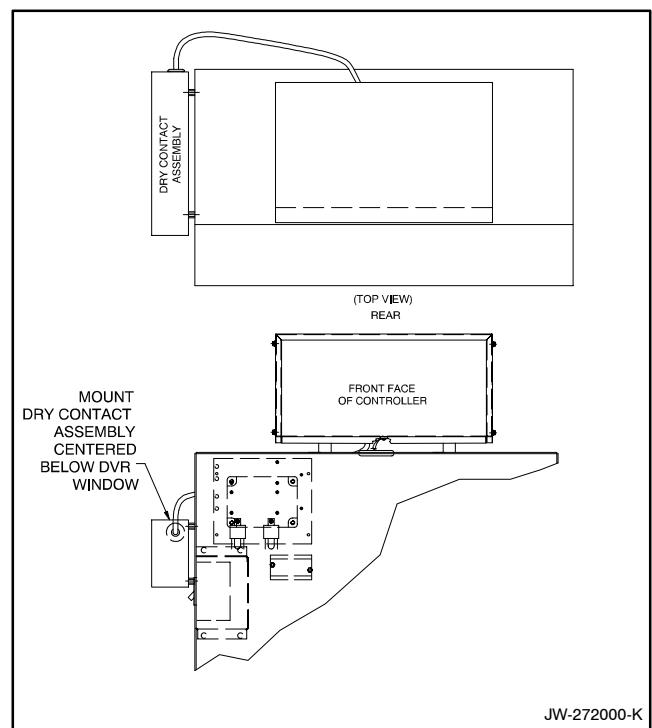

Figure 8 Junction Box Drilling Information (350/400 kW)
- 5.2.1 Drill four 7.1 mm (0.281 in.) diameter holes in the junction box as shown in Figure 8.
- 5.2.4 Mount the ten-relay dry contact box (A-273936) to the junction box using four screws (X-465-7), spacers (X-400-28), and nuts (X-6210-2). See Figure 8 for the mounting position.